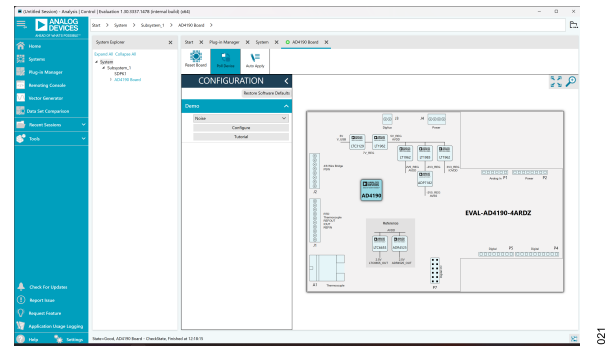

Figure 21. AD4195-4 Evaluation Board View
4. Double-click the **AD4195** chip icon in the **AD4195 Eval Board** view window to open the **AD4195** chip view window, as shown in Figure 21.